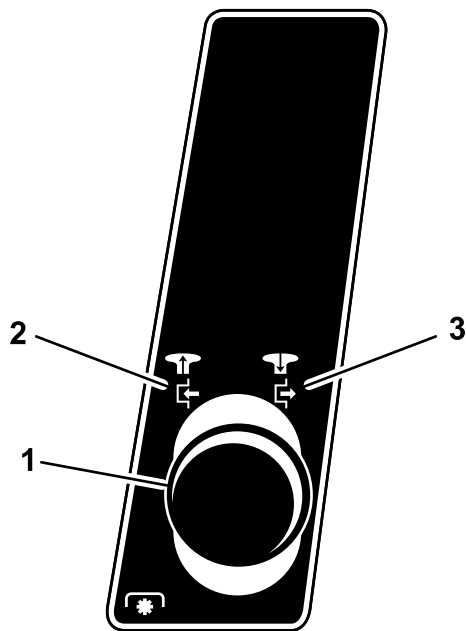

Figure 11
4. Disengage the blades (PTO). Refer to Figure 11.